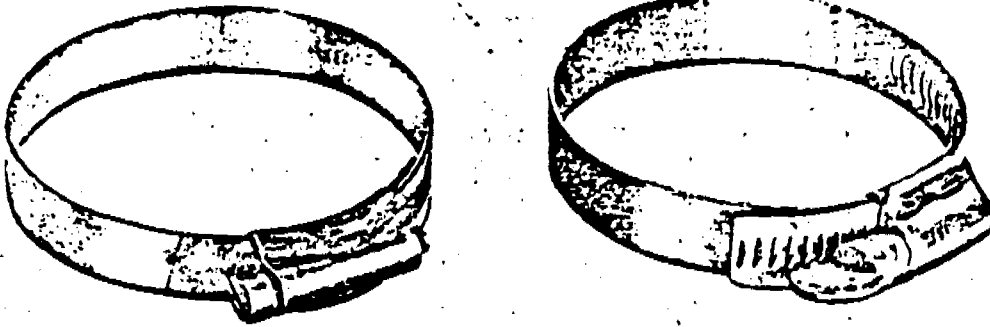

Figure 4 - Complete
c. Install four clamps, North American, part No. 102-46086, or two clamps, Packard, part No. 606473, along with four bolts, part No. AN3-14A, and four nuts, part No. AN365-1032, unless already installed, over the retainers, part No. 604867, and molded neoprene ring and tighten the four bolts evenly. (See figure 4.)